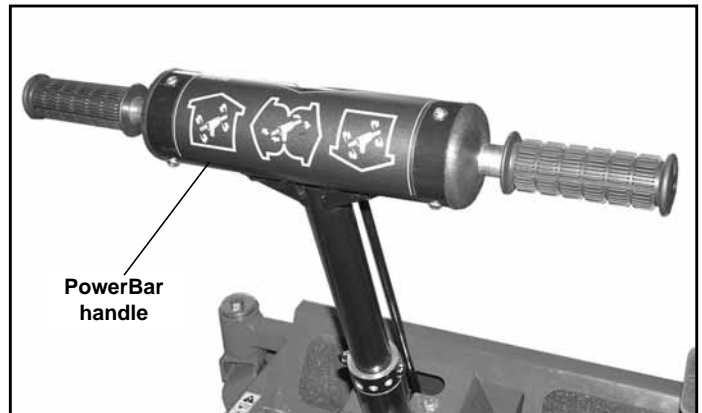

Figure 4-12
2. Place the PowerBar handle in the neutral position.(Figure 4-12) Disengage the deck clutch switch.